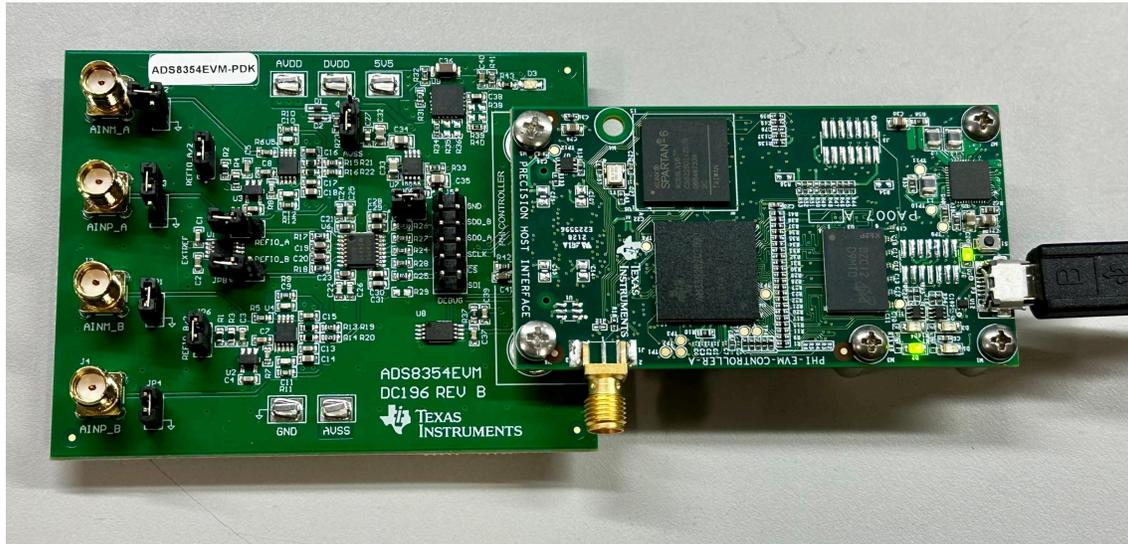

Figure 6-1. EVM-PDK Hardware Setup and LED Indicators
1. Connect the device EVM to the PHI board. Figure 6-1 indicates where the screws are to be installed.